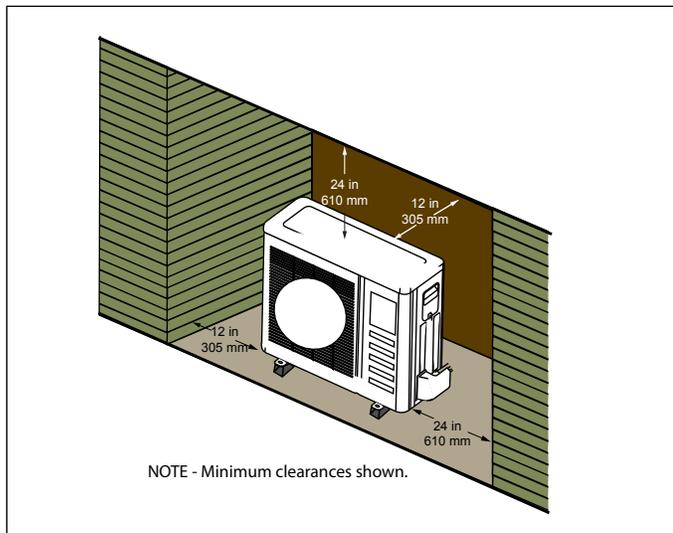

Figure 19. Unit Installed in Alcove
- Outdoor unit can be installed in a alcove or under a roof overhang as illustrated in “Figure 19. Unit Installed in Alcove”